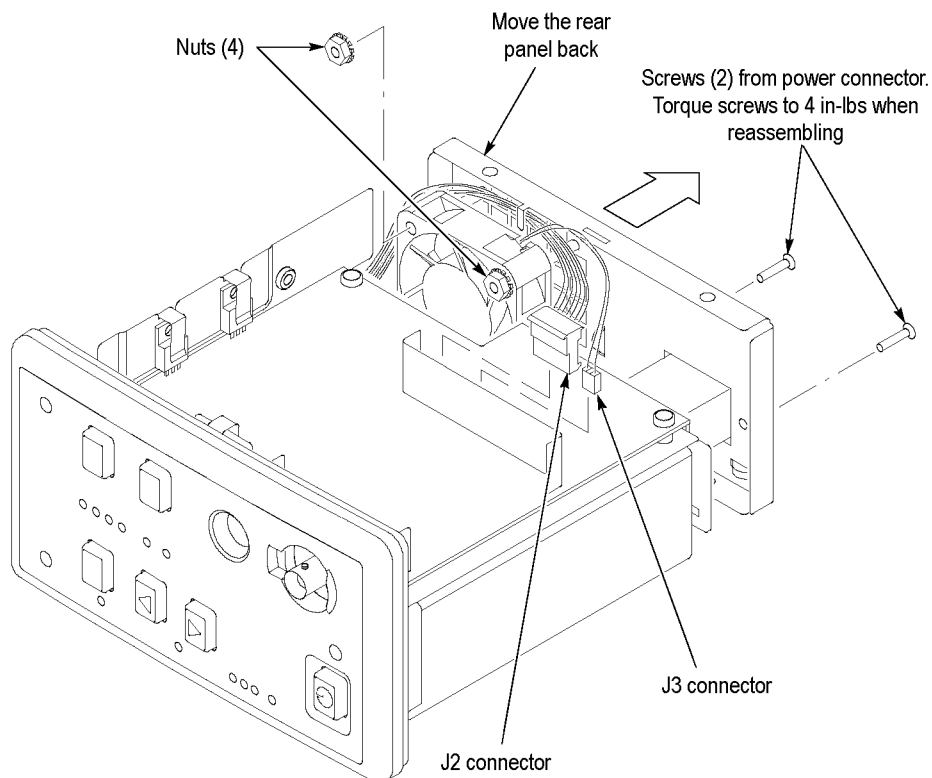

Figure 28: Removing the fan
2. Disconnect the DC power supply connector from J2 on the amplifier board as shown. (See Figure 28.)